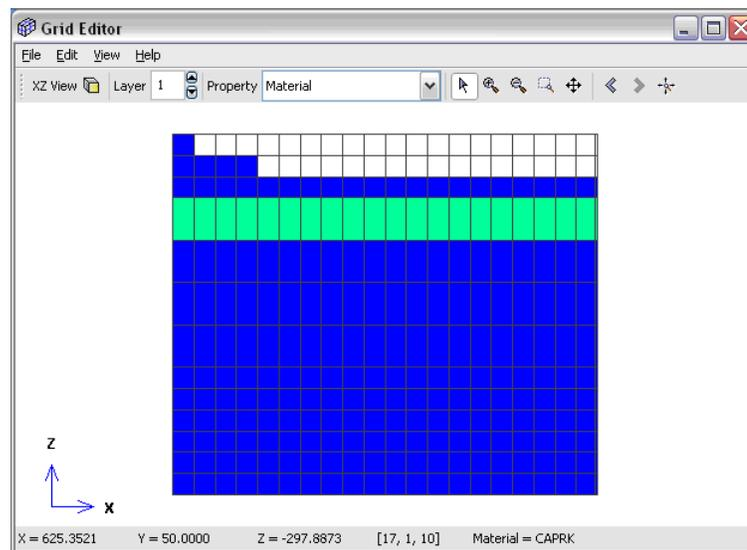

Figure 3.6. Displaying the different materials in different colors
3. The display will show two materials, Figure 3.6. Note that the material name is displayed in the lower information bar as the cursor hovers over each cell.